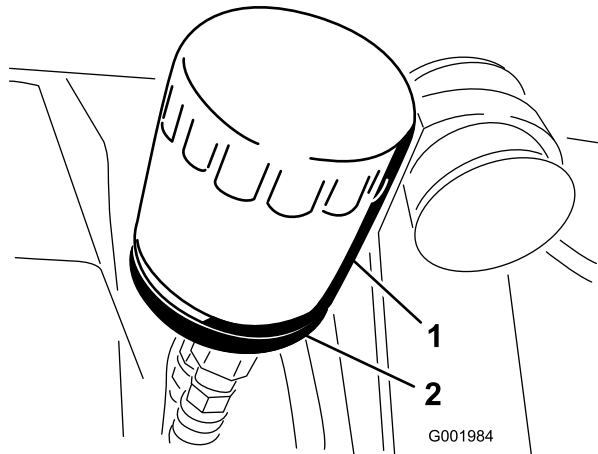

Figure 52
2. Remove the oil filter (Figure 52).
5. Install the replacement oil filter to the filter adapter. Turn the oil filter clockwise until the rubber gasket contacts the filter adapter, then tighten the filter an additional 1/2 turn (Figure 52).